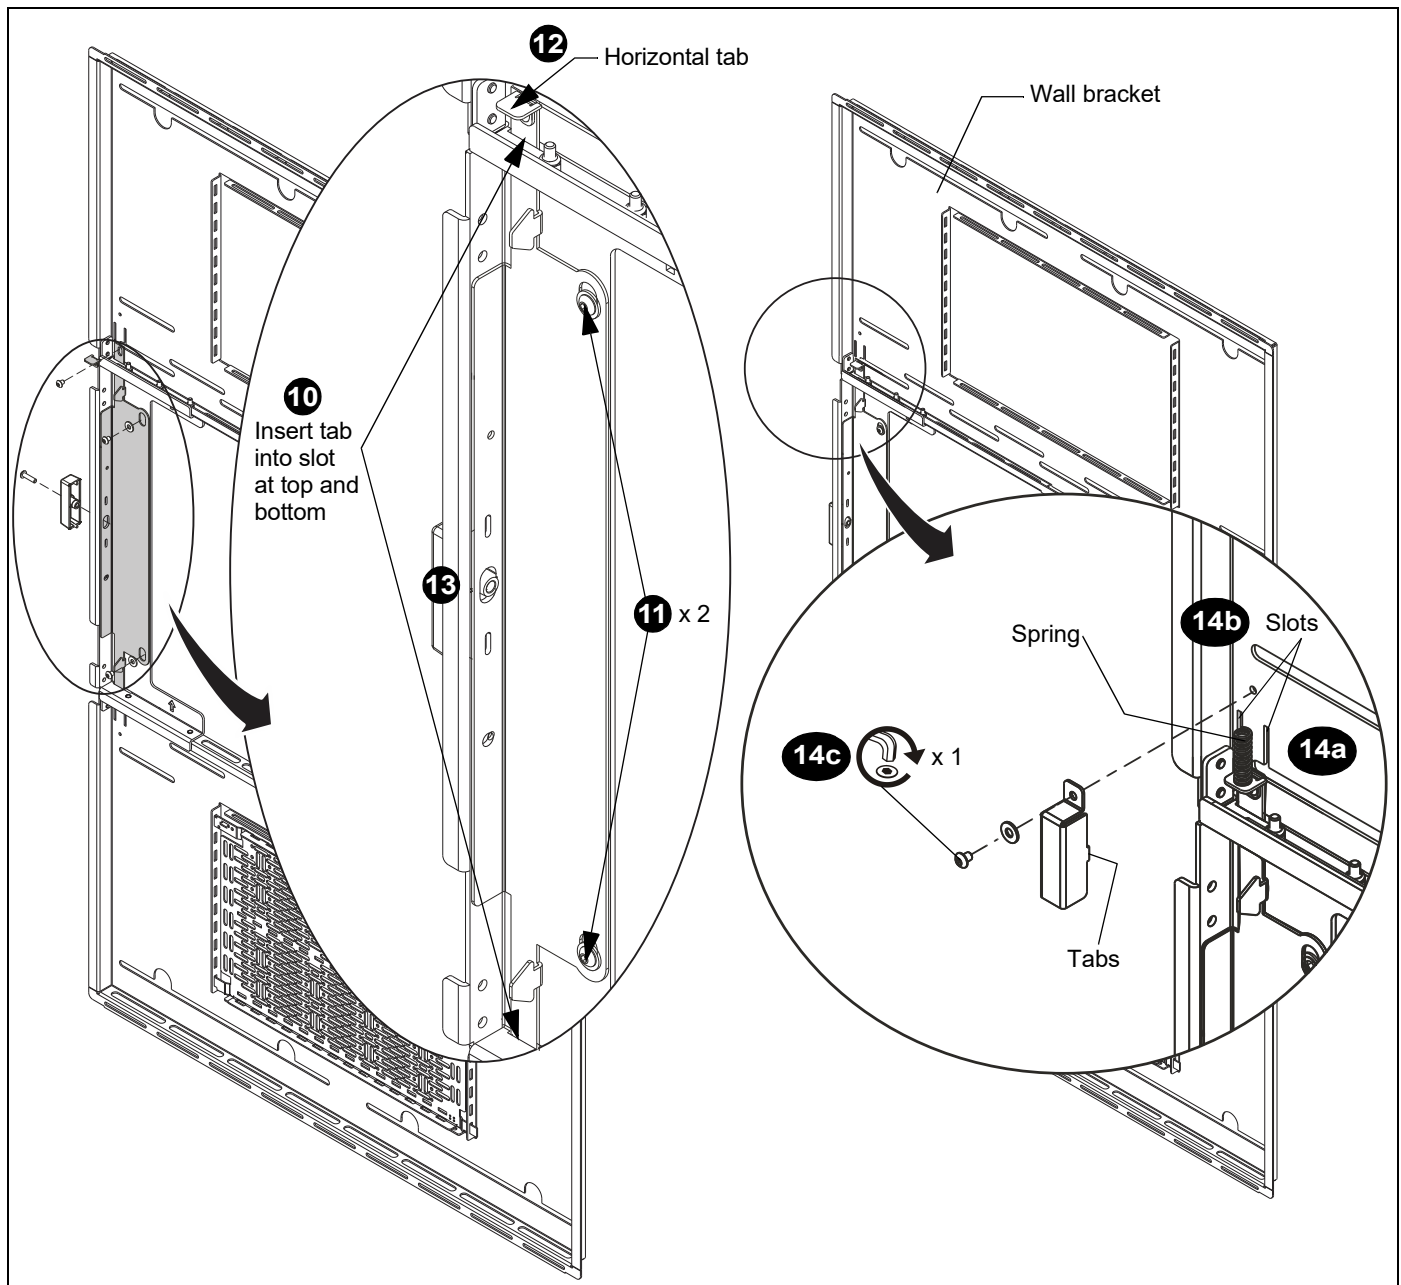

Figure 15
**NOTE:** Be sure that upper and lower tabs are slid into slots on wall bracket. (See Figure 15)
11. Fasten in place with two washers and screws removed in Step 1. (See Figure 15)
12. Re-install small horizontal tab removed from bottom of latch section in Step 1, by fastening it onto the top of the latch section. (See Figure 15)
13. Re-install outside latch using fastener removed in Step 1. (See Figure 15)
14. Re-install inside latch: (See Figure 15)